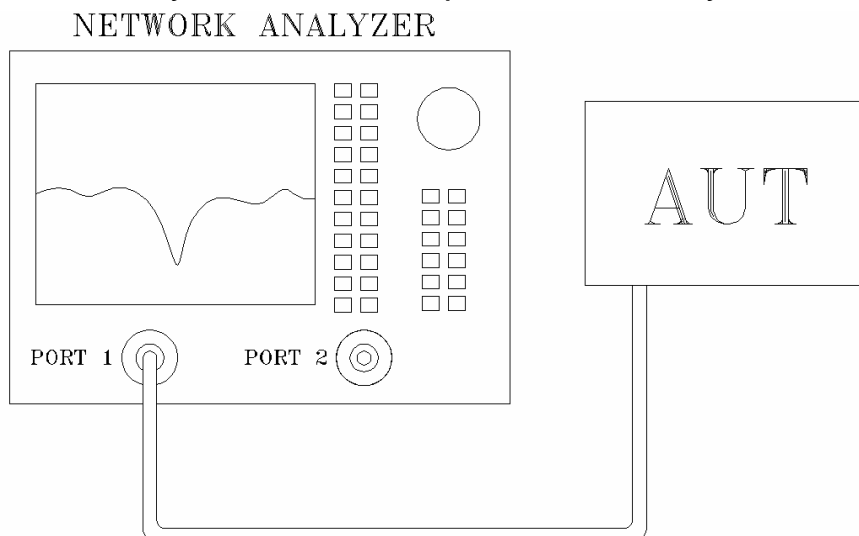

Fig.1 Antenna measured in Network Analyzer
- (1) Calibrate the Network Analyzer by one port calibration using O.S.L. calibration kits.
- (2) Connect the antenna under test to the Network Analyzer.
- (3) Measure the S11(reflection coefficient) shown in Fig. 1.
- (4) Generally, the S11 is less than -10dB to ensure the 90% power into antenna and only less than 10% power back to system.